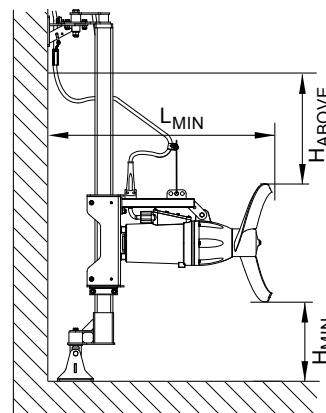

Fig. 3 Positioning sketch for mixers
- The distance between the propeller tip and the bottom of the tank, H_{MIN} in fig. 3, must be half of the propeller diameter.
- SMG:** The distance from the propeller tip to the liquid surface, H_{ABOVE} in fig. 3, must be at least equal to the propeller diameter.
- SMD:** The distance from the propeller tip to the liquid surface, H_{ABOVE} in fig. 3 must be at least 1.5 times the propeller diameter.
- The distance between the propeller tip and the wall behind the mixer, L_{MIN} in fig. 3, must be at least 1.5 times the propeller diameter.